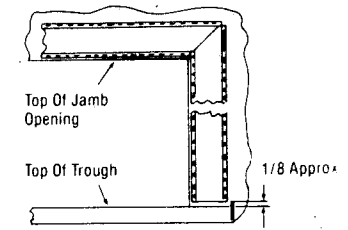

Figure 8-21. JAMB SEAL.
8.15.2 Installing Jamb Seal Channel (Figs. 8-21, 8-22)
3. Select and position each jamb seal channel against jamb, checking for proper alignment of holes and mitered corners. These side jamb seal channels should reach from top of door opening to top of trough. Inside edge of channel should be nearly flush with the inside of the door opening. (See Figure 8-21)